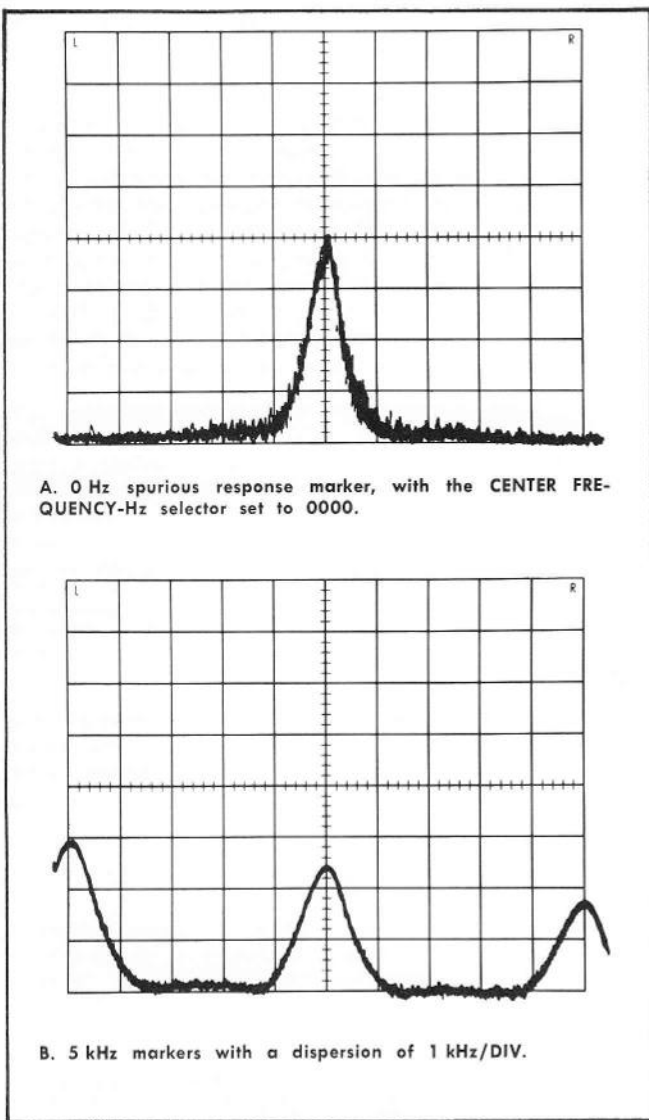

Fig. 2-3. Frequency markers to calibrate the Center Frequency and Dispersion.
d. Adjust the 0000 Hz CF CAL adjustment to center the 0 Hz spurious response marker as the Hz/DIV and RESOLUTION controls are reduced to 10. See Fig. 2-3. Set the Time/Div selector to 50 ms.